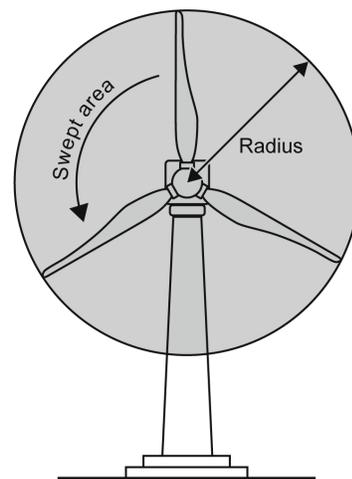

Figure 3
- c. Measure the radius of the turbine (see Figure 3) and record the value in Table 1.